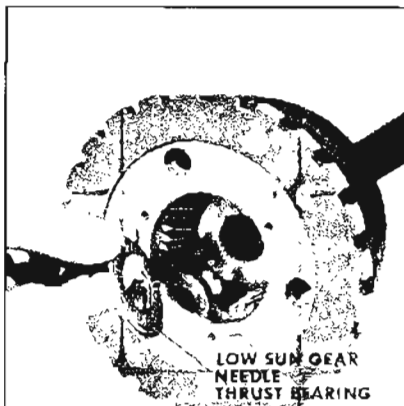

Figure 5-261
6. Remove low sun gear needle thrust bearing. See Figure 5-261.